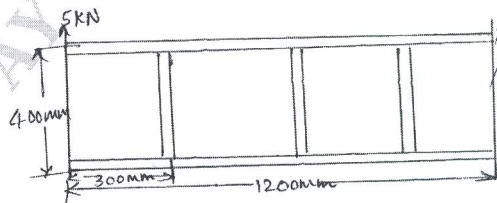

Fig. Q10
- 10 The beam shown in Fig. Q10 is assumed to have a complete Tension field web. If the cross sectional area of flanges and stiffeners are 350 mm² and 300 mm² and elastic section modulus of each flange is 750 mm³, determine maxi stress in flange and also find whether the stiffness will buckle. Thickness of web 2 mm. Second M.I of stiffener about an axis in the plane of web is 2000 mm⁴. E = 70,000 N/mm². (16 Marks)